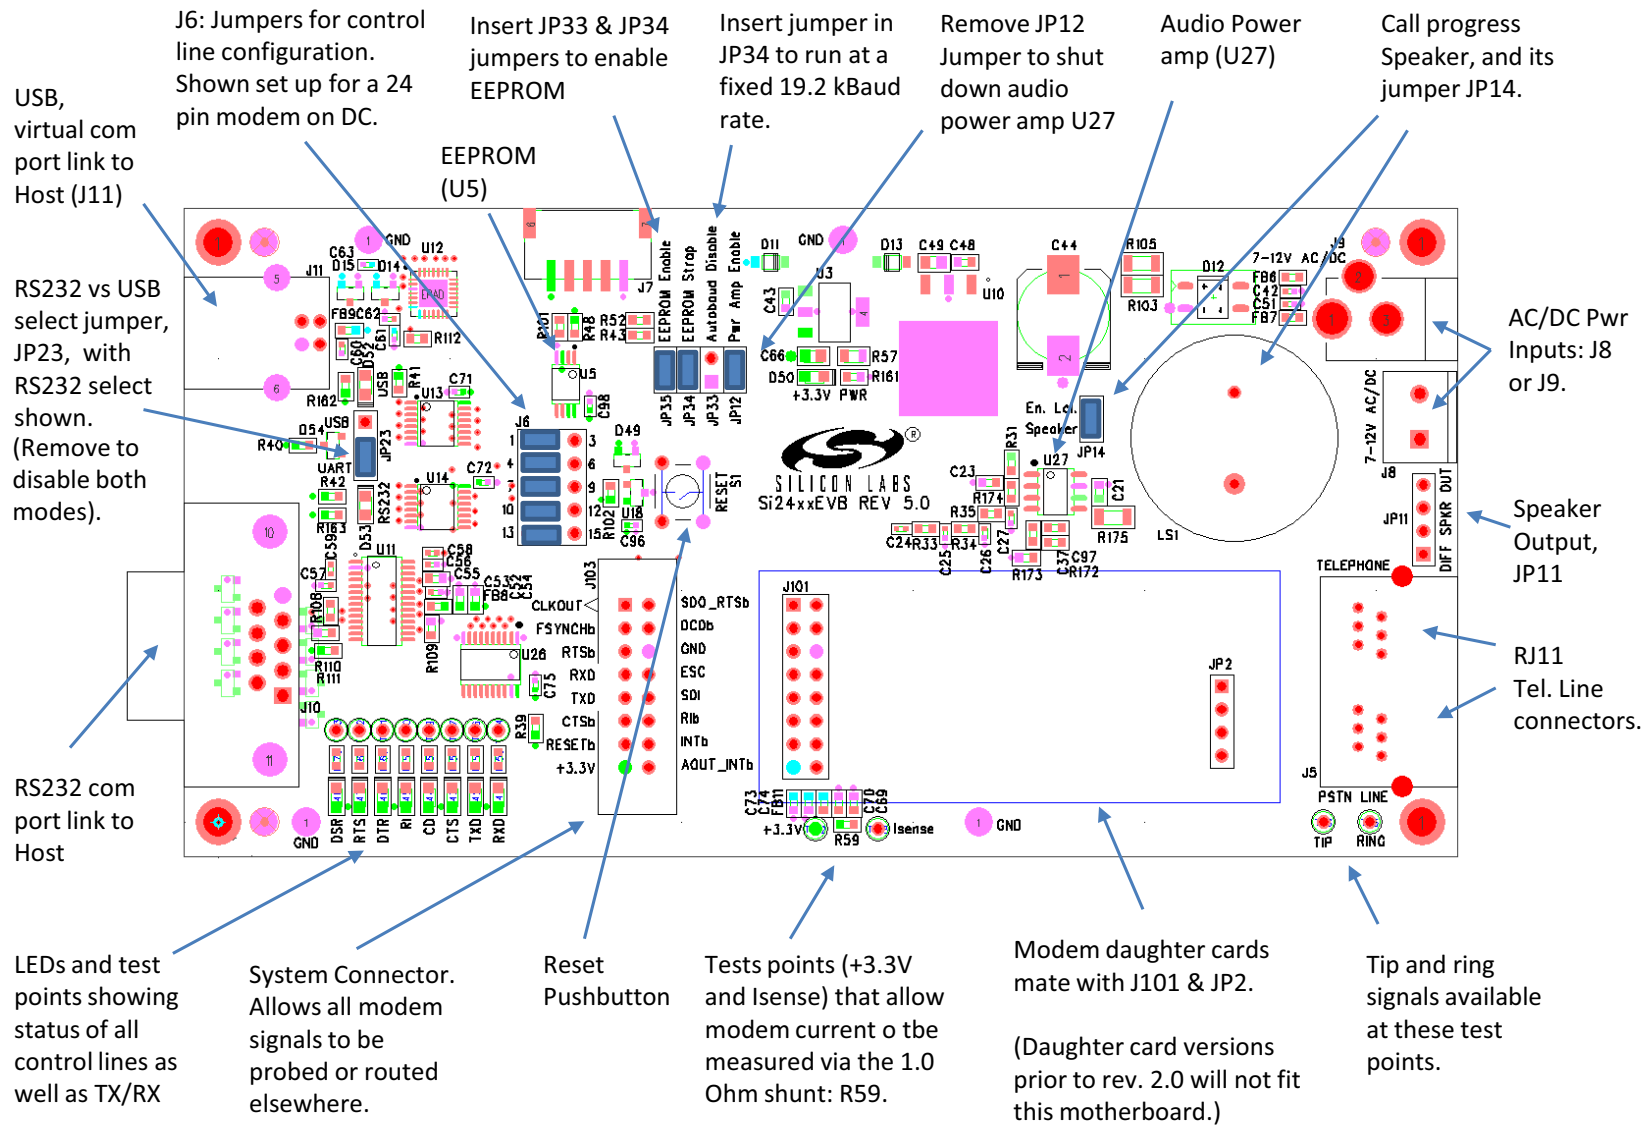
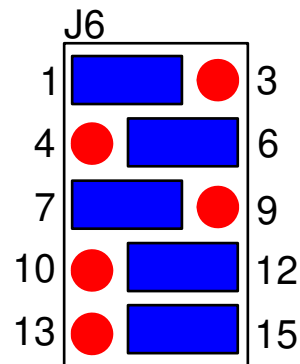

Figure 1. Default Motherboard Setup
Figure 3. Default J6 Setup for 16-Pin Modem Chips
1. Set jumpers according to Figure 1, but change J6 to the arrangement shown in Figure 3 if an FS ISOModem package is used.
1. Set jumpers according to Figure 3, but change J6 to the arrangement shown in Figure 3 if an FS ISOModem package is used.
Figure 1 shows the default motherboard setup for the FT package daughter card as well as the functions of connectors and jumpers.
To change to USB operation simply move the RS232 selection jumper on JP23 to the USB position as marked on the PCB and shown in Figure 1. When the USB vs UART settings are changed the appropriate indicator LED will light up on the EVB.